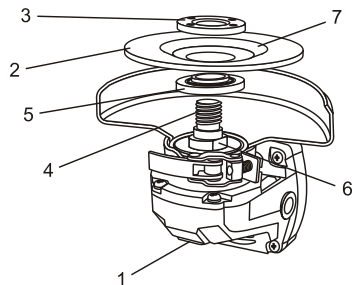

Fig. 5
2. Depress the spindle lock button (1) and rotate the grinding disc (2) until the spindle locks (Fig. 5).
3. Grasp the grinding disc and rotate the grinding disc in a counter clockwise direction. Once the grinding disc and outer disc flange (3) are loose, continue to turn the outer disc flange counter clockwise by hand until it is removed from the spindle (4).
1. Remove the grinding disc (Fig. 5).